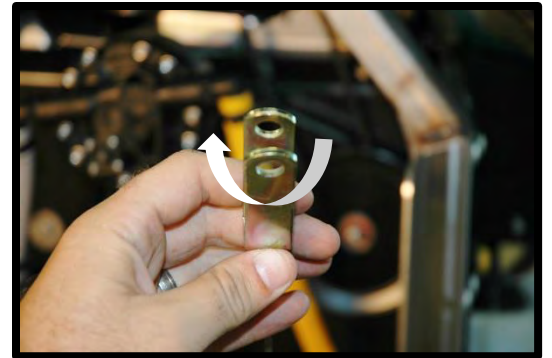

FIGURE 4: Clevis Removed from Steering Arm
3. Loosen locking nuts on the clevis and turn it counter clockwise on the steering cable (FIGURE 4). **IMPORTANT! Tighten each steering cable equally to ensure equal alignment and avoid changing the steering wheel alignment.**